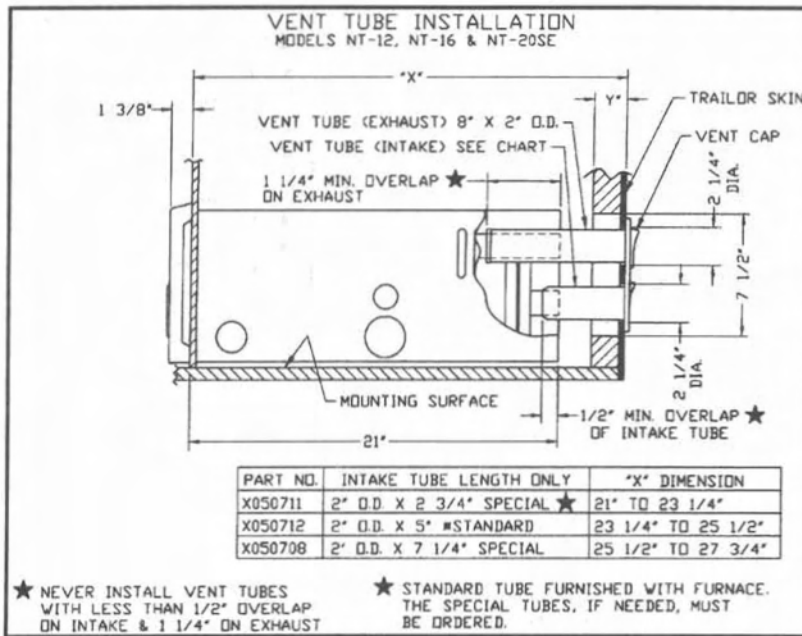

Figure 1
These furnaces will accommodate an installation depth from 21" to 27 3/4", depending on the intake vent tube length you select. (See Figure 1.)
The furnace cabinet must extend through the coach cabinetry 1 3/8" as shown in Figure 1. The 1 3/8" extension must be held in order to assure that the front grille will properly attach to the furnace cabinet. Adequate clearances must be maintained around furnace cabinet so that the unit will be accessible for servicing.
6. Determine "X" dimension as shown in Figure 1.
7. Determine "Y" dimension as shown in Figure 1.
10. Refer to the chart in Figure 1 and select the range for which the 'X' dimension falls. The intake tube length directly to the left of the selected range is the length required. NOTE: The 7 3/4" length exhaust tube assembly will accommodate all approved installation depths - only the intake tube must be ordered when needed. Under no circumstances should the standard 5" intake tube be cut or altered to adapt to the 21" - 23 1/4" range.
2. Insert intake tube through RV skin and slide it onto the furnace intake (See Figure 1.) Minimum tube overlap of 1/2" is required.
3. Insert vent cap exhaust tube through RV skin and slide it onto the furnace exhaust (See Figure 1.) Minimum tube overlap of 1 1/4" is required.
4. Attach vent cap assembly to outer skin of RV with the six (6) screws provided. Do not install vent assembly upside down. The words "Suburban" and "Dayton, Tenn." must be right side up.